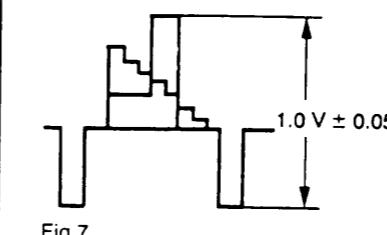

Fig 7.
- 3: By using VR2801 on the COMB FILTER PCB ASS'Y adjust the amplitude as shown in fig. 7.